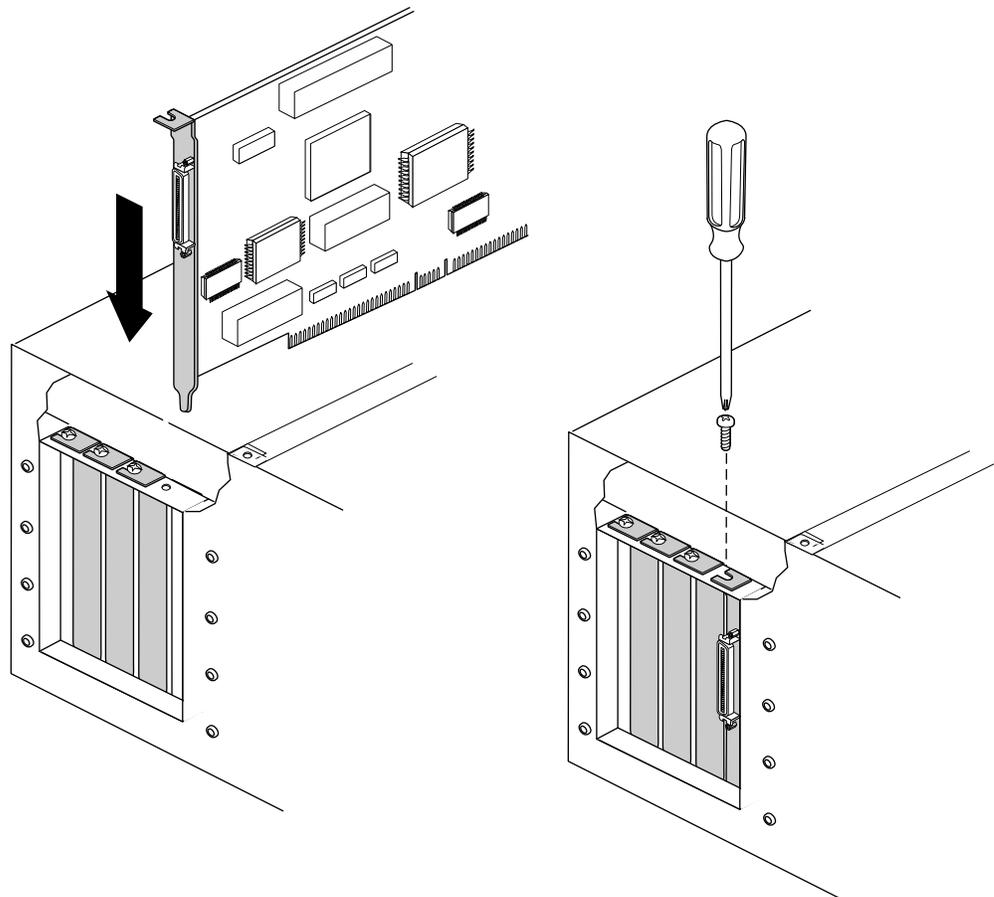

Figure 2-9 Installing a PCI Option Board in a GIGACHannel Expansion Cabinet
4. Install the PCI option board in the slot, as shown in Figure 2-9.